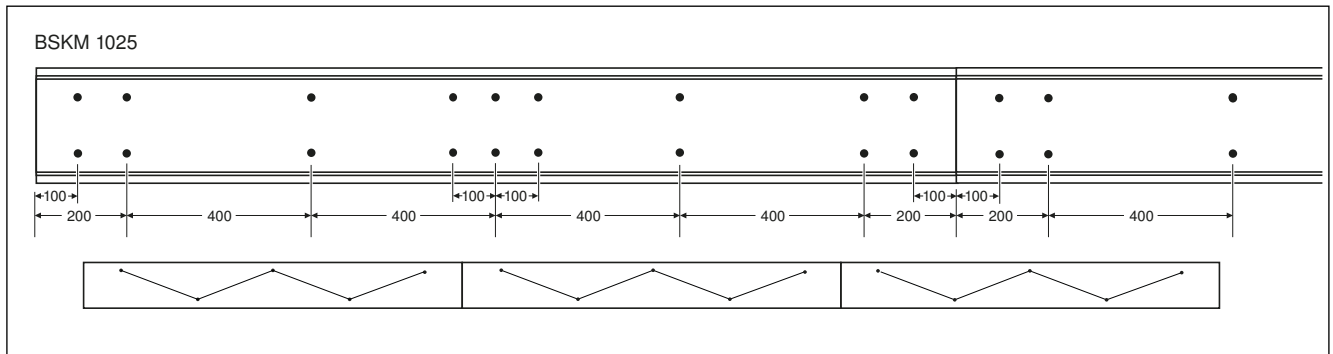

Fig. 21: Hole pattern for wall mounting, BSKM 1025
- Pierce the fire protection coating with a sharp object at the necessary perforations. Note the hole pattern as shown in Fig. 21, 22 or 23. Note that the holes must be positioned in an offset manner.